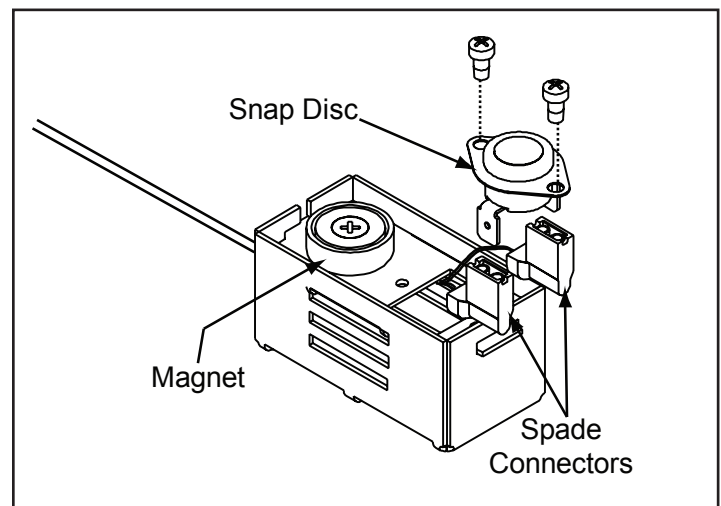

Figure 19.1
3. Pull the snap disc and spade connectors up and out of bracket as shown in **Figure 19.1**